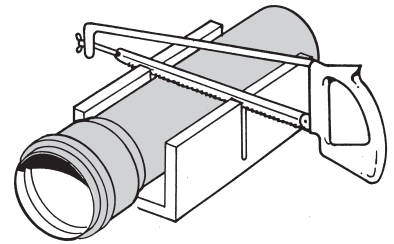
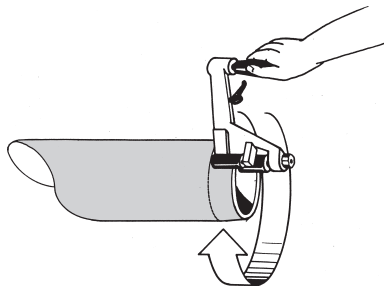

Fig. 4
Fig. 5
- 5 Coesprene® pipes and fittings have their tang perfectly chamfered to make insertion easier. If you use crop ends of pipe, make a cut precisely and perpendicular (Fig. 4). Then, in order to not damage the seal during coupling, chamfer using the special tool (Fig. 5)